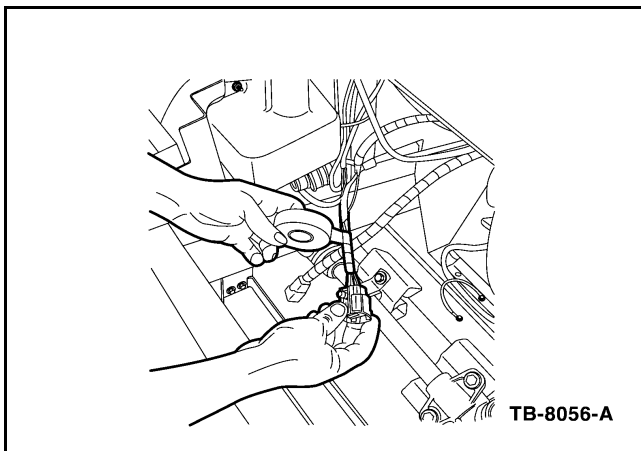

Figure 15 - Article 04-24-9
- e. Wrap tape around the harness where the new stub harness was installed. The green/black wire and the blue/orange wire of the main harness that were not used for the 4-pin stub harness are to be taped back, they are not operational (Figure 15).